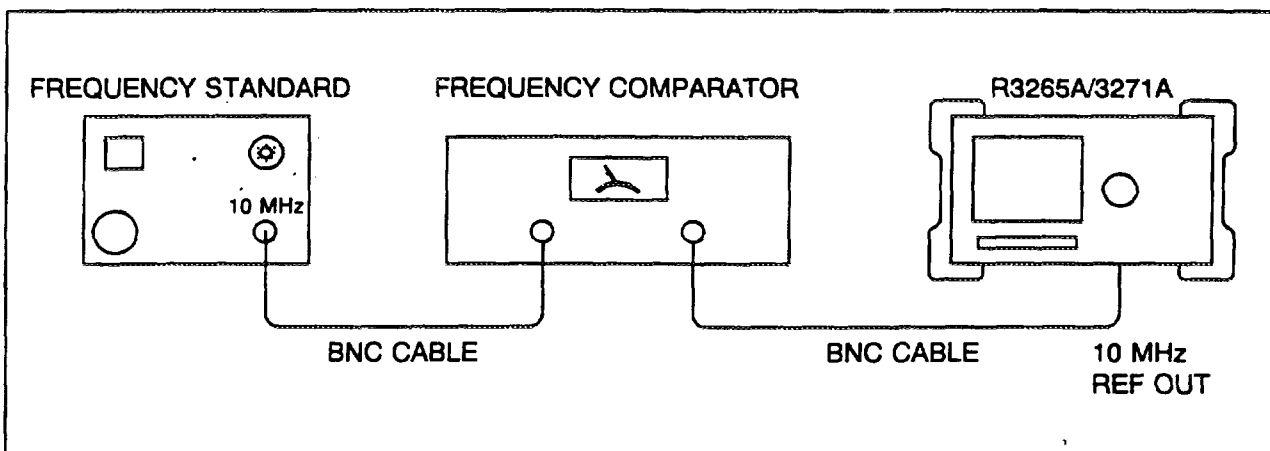

Figure 5-14 10 MHz Frequency Reference Adjustment Setup
- Connect the equipment as shown in Figure 5-14.